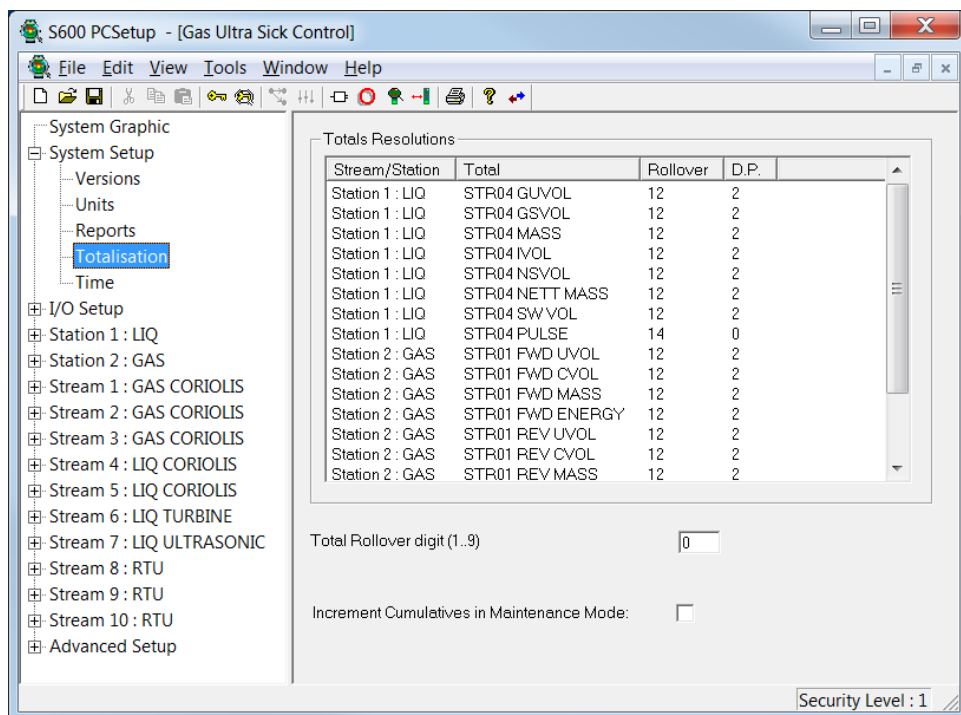

Figure 3-8. Totalisation
Click the **Totalisation** option on the hierarchy to display the Totalisation screen (*Figure 3-8*). Use this screen to manage how the system displays totals.
3. Complete the **Total Rollover digit** field (see *Figure 3-8*) to indicate the value at which rollover occurs. For example, if you either leave this field at **0** (default) or set it to **9**, rollover occurs at 9,999. If you set this field to **3**, rollover occurs at 3,999, and so on.
4. Select the **Increment Cumulatives in Maintenance Mode** check box (see *Figure 3-8. Totalisation*) to enable the S600+ to increment all totals in maintenance mode. Otherwise the S600+ increments only Maintenance Mode totals when in maintenance mode.